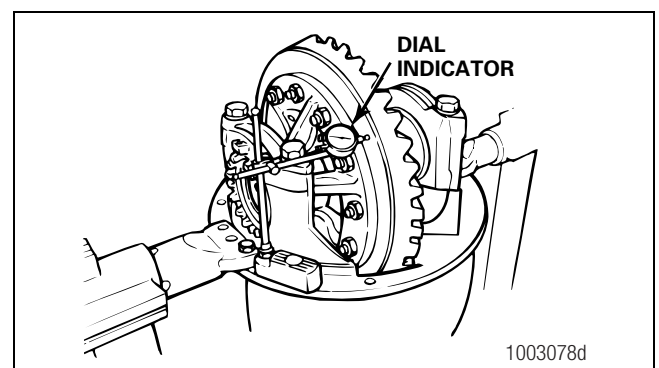

Figure 5.50
1. Attach a dial indicator onto the carrier mounting flange so that the plunger or pointer is against the ring gear back surface. Figure 5.50.